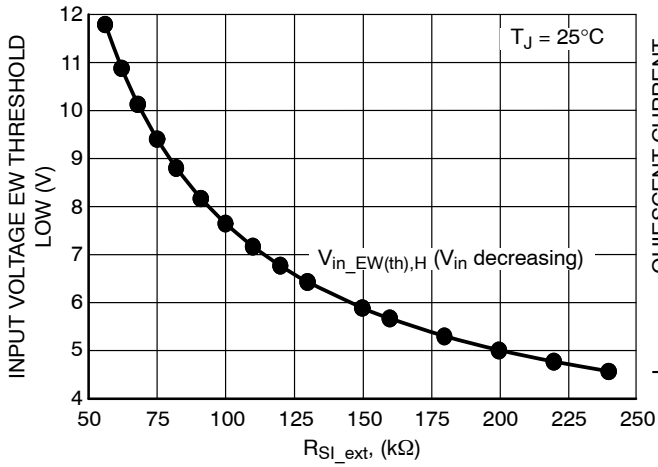
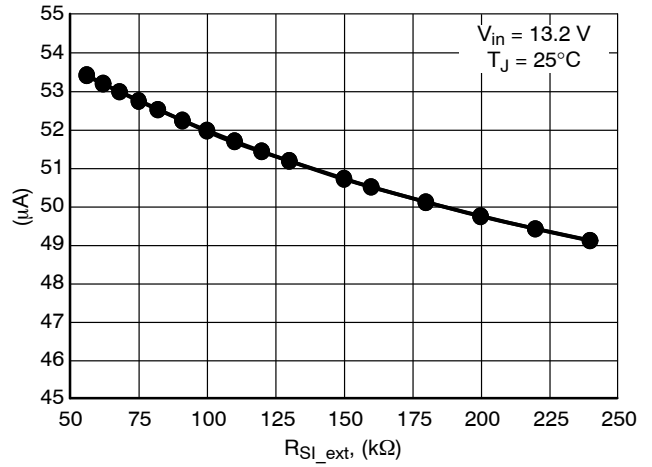

Figure 22. Input Voltage EW Threshold Low vs. R_{Sl_ext} (Calculated Using E24 Series)
Figure 23. Quiescent Current vs. R_{Sl_ext} (Including I_{RSl_ext} , Calculated Using E24 Series)
13. I_q for Preset EW Threshold Options is measured when R_{SI_ext} is not used. For typical values of I_q vs R_{SI_ext} see Figure 23.
Practically only preset options above 4.5 V can be used without R_{SI_ext} due to minimum operating input voltage value limitation. For other preset options the trip point has to be adjusted externally using R_{SI_ext} resistor connected between input monitor SI and GND (see Figure 1). For other preset options R_{SI_ext} has to be used to achieve V_{in_EW(th)} > 5.5 V (minimum operating input voltage value). The value for R_{SI_ext} is recommended to be selected in range from 50 kΩ to 250 kΩ and the trip point can be shifted according to Figure 22. The higher is R_{SI_ext} the lower is overall Quiescent Current of the application (see Figure 23). General formulas for calculation of V_{in_EW(th)Low} or R_{SI_ext} for selected preset Early Warning options are described by Equations 1 and 2.